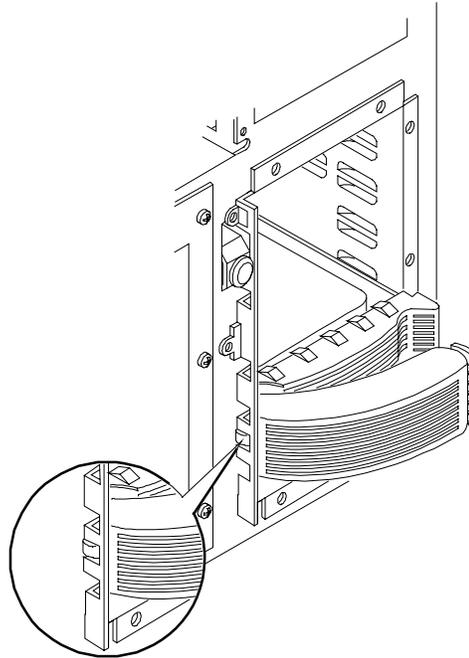

Figure 4-8. Locking Tab Location
6. For the LH 6000, verify that the locking pin behind the pivot end of the handle engages the hole in the chassis (see Figure 4-8).